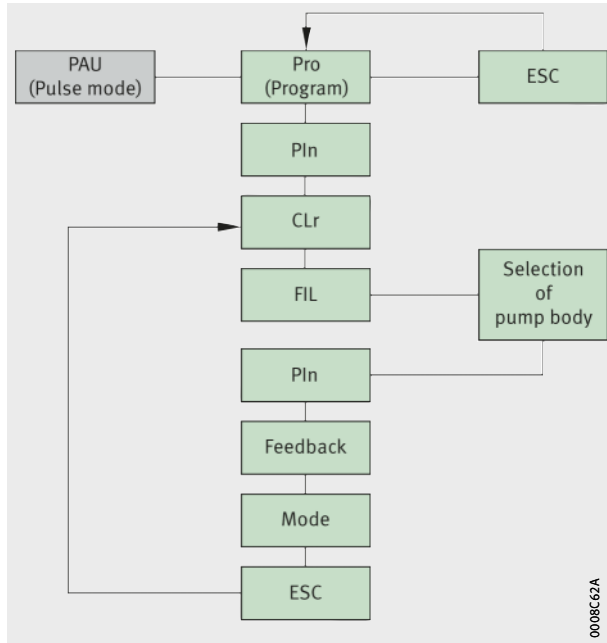

Figure 16
- pulse control by means of connection to an external controller, *Figure 16*, page 26.